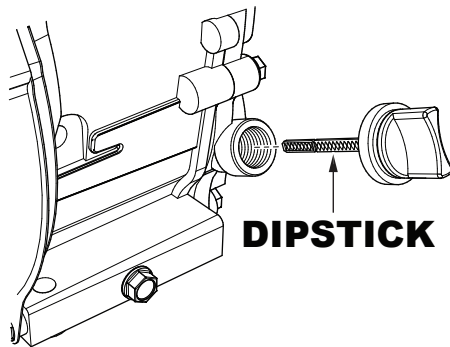

Figure 4. Engine Oil Dipstick
2. Remove the engine oil dipstick (Figure 4) from the oil filler hole and wipe it clean.